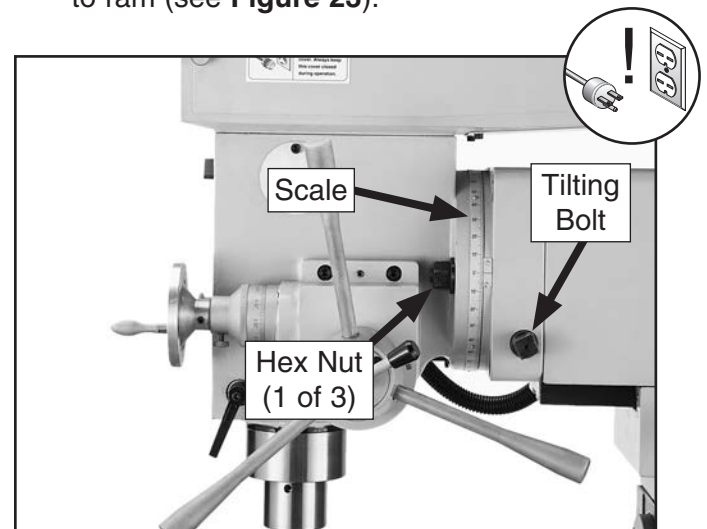

Figure 23. Head tilting controls.
2. Loosen three hex nuts (one on each side of head and one underneath) that secure head to ram (see **Figure 23**).
Note: *Use angle scale shown in **Figure 23** as a guide for setting tilt angle.*